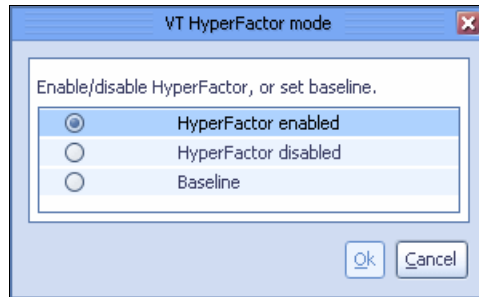

Figure 10-103 Change HyperFactor mode window
1. Select **VT** → **VT Library** → **Set HyperFactor mode**. The ProtecTIER VT HyperFactor mode window opens (Figure 10-103).